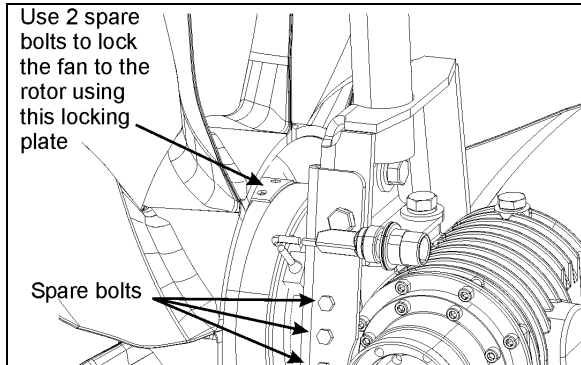

FIGURE 24: MECHANICAL LOCKING 05124
5. Screw in and tighten the spare bolts (Fig. 24).